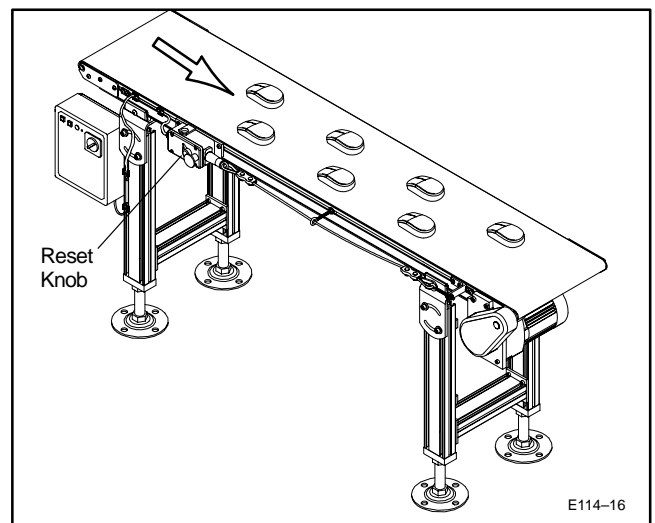

Figure 16: Sample Pull Cord E-Stop & *impac* Conveyor Controller
- c. Shown here is an application using the Pull Cord E-Stop to stop a Conveyor (Figure 16).